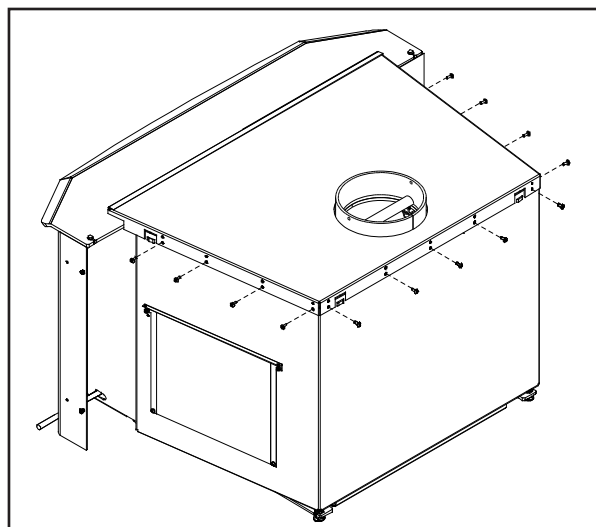

Figure 9: Removing Cabinet Top from Unit.
1. Remove the thirteen T-20 screws holding the cabinet top in place (refer to Figure 9)
3. Remove the Air Deflector (shown in Figure 9) by removing the two (2) T-20 screws.